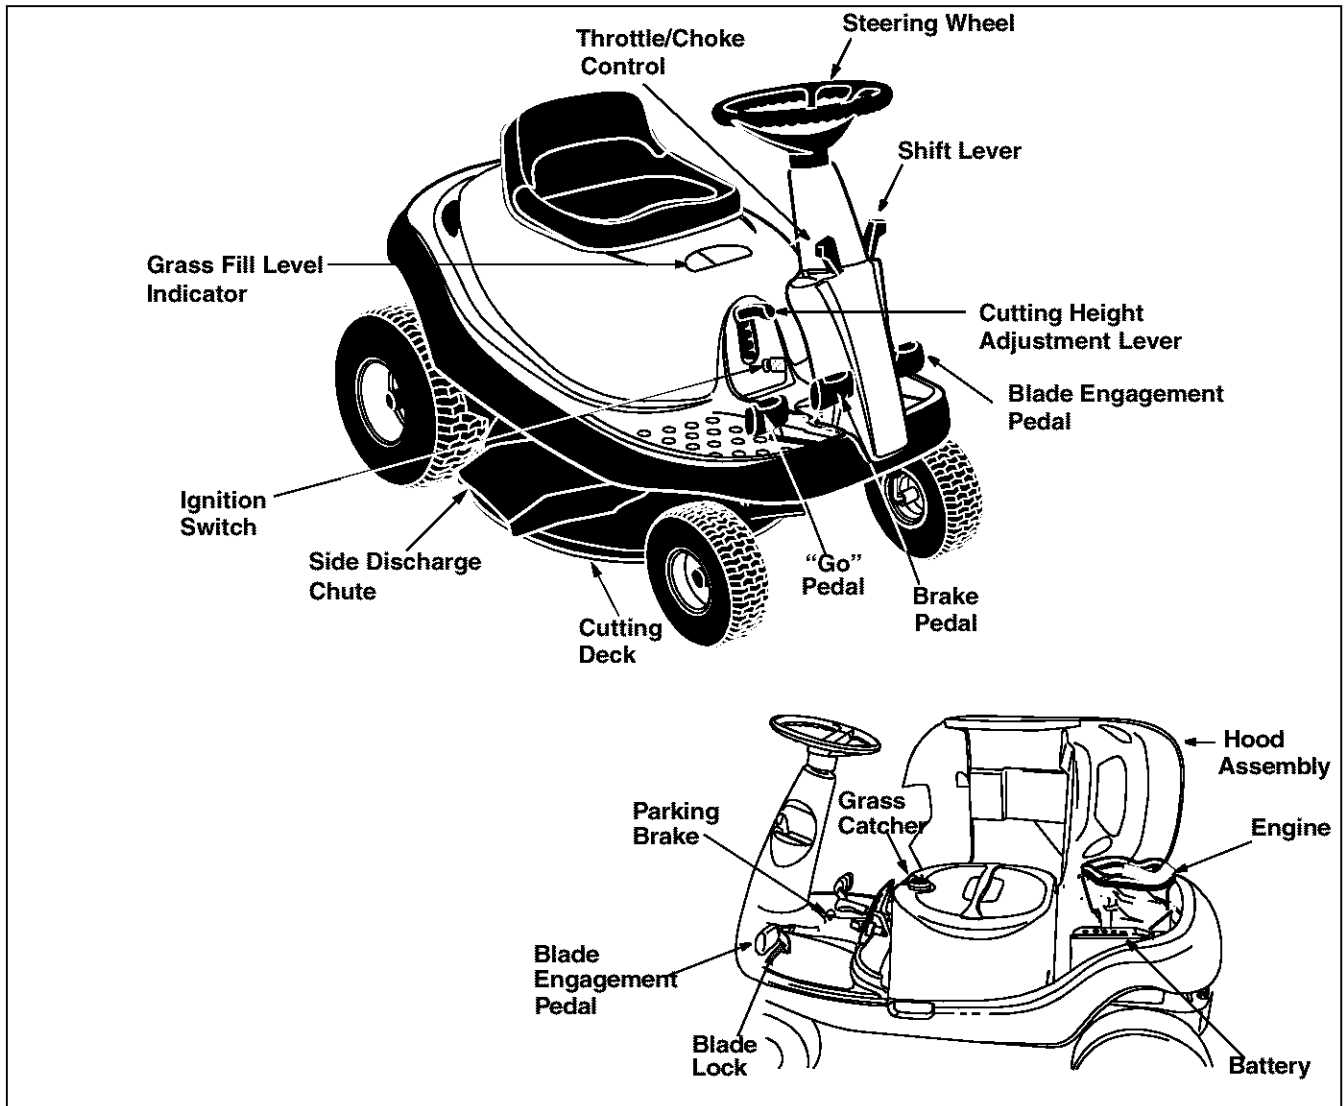

Figure 6
5. Be sure the parking brake is disengaged. See Figure 6 for location of the parking brake.
Compare the illustrations in Figure 6 with your riding mower to familiarize yourself with the location of various controls and adjustments.